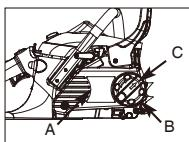

Fig. 3B
3. Loosen button (C) slightly by turning knob counterclockwise and then turn the chain tension ring (B) counter-clockwise to relieve chain tension. (Fig.3B)
4. To remove the sprocket cover (A), turn button (B) counter-clockwise. (Fig.3B)